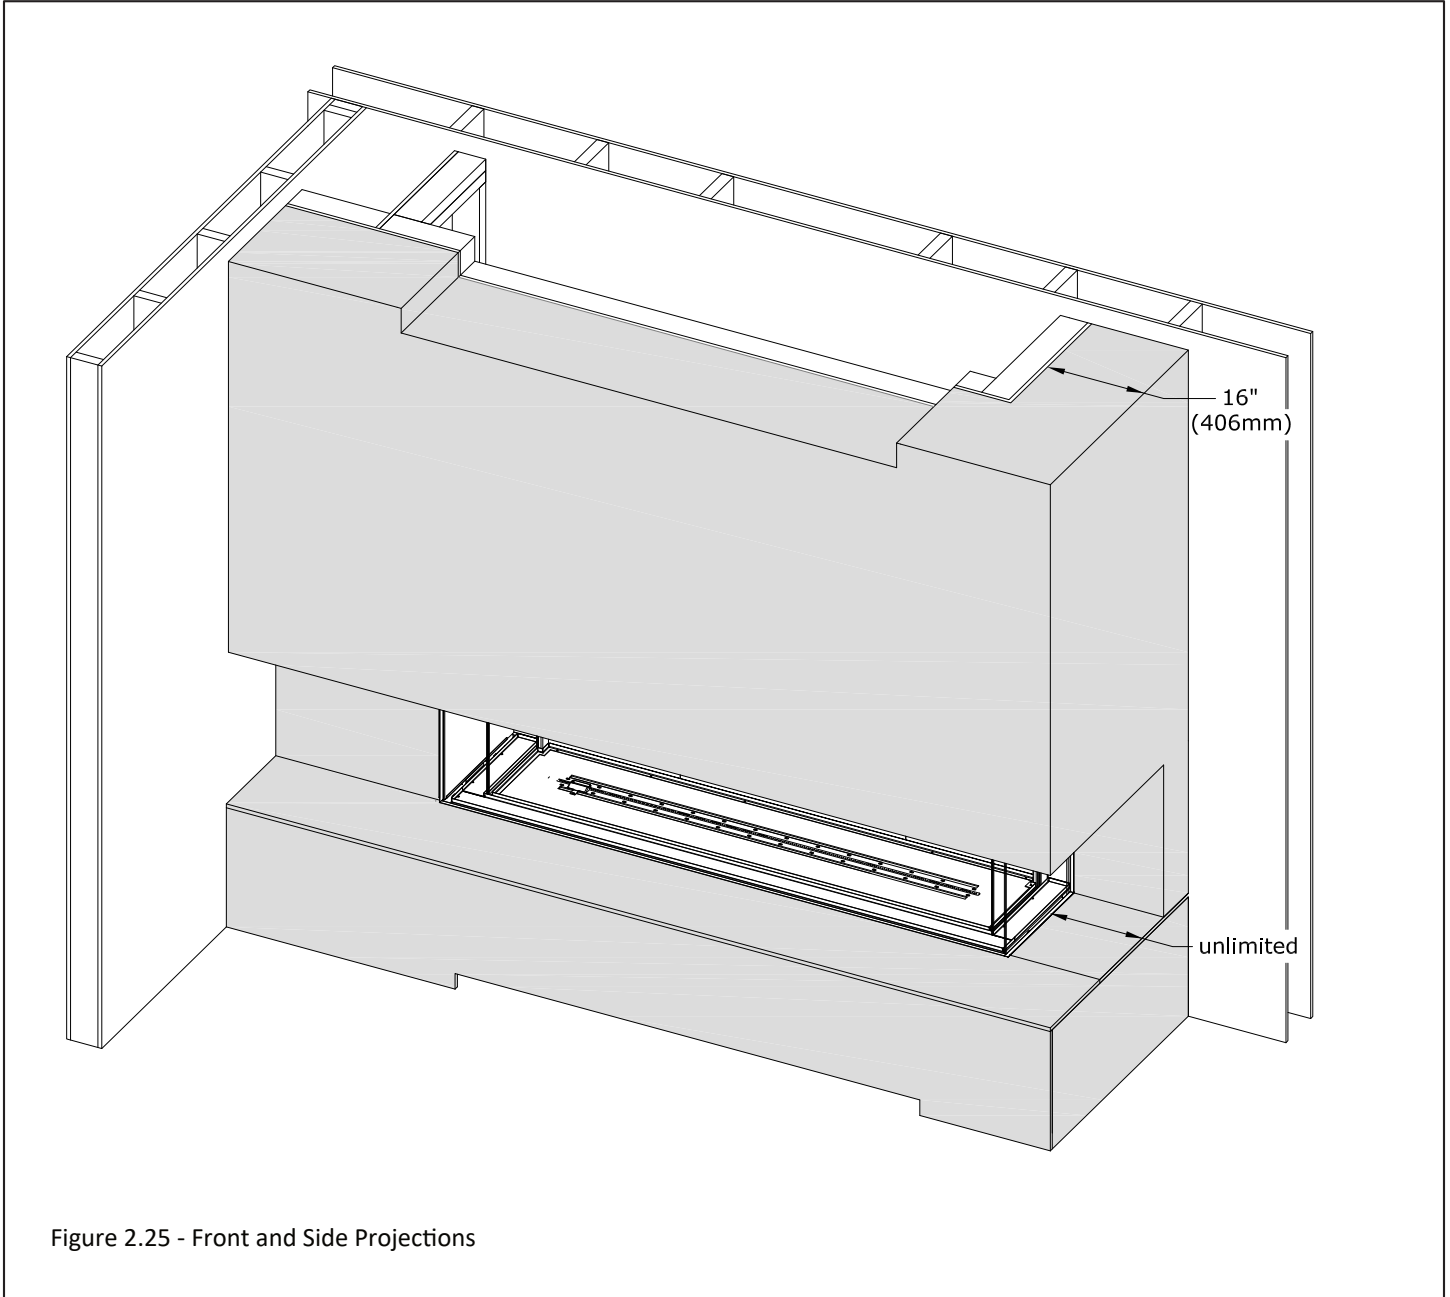

Figure 2.25 - Front and Side Projections
- **Combustible Mantel Leg:** A mantel leg can be installed at 0" (0mm) to the fireplace side finishing edge. Refer to Figure 2.25 which shows a combustible projection up to a max of 16" (407mm) on the fireplace side finishing edge.
Figure 2.25 shows a fireplace with a front and side chamber projection with a hearth installed.